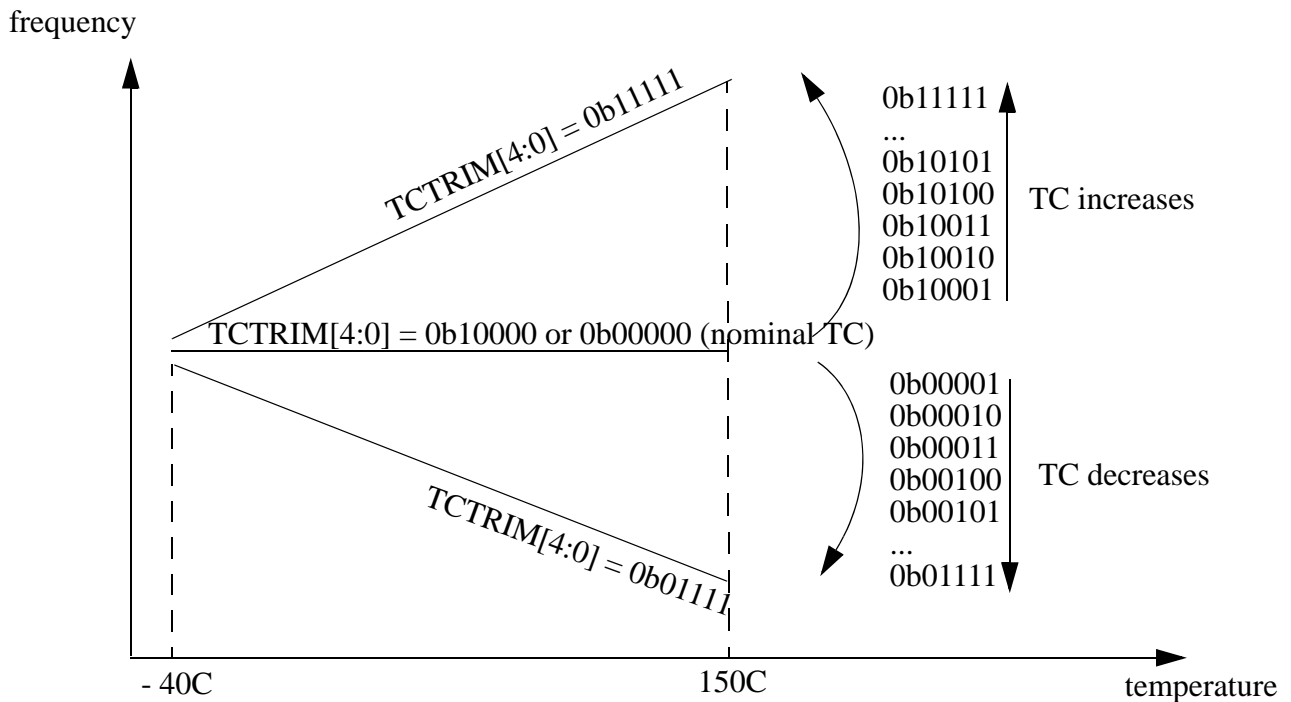

Figure 10-26. Influence of TCTRIM[4:0] on the Temperature Coefficient
15-11 TCTRIM[4:0]	<p>IRC1M temperature coefficient Trim Bits</p> <p>Trim bits for the Temperature Coefficient (TC) of the IRC1M frequency.</p> <p>Figure 10-26 shows the influence of the bits TCTRIM4:0] on the relationship between frequency and temperature.</p> <p>Figure 10-26 shows an approximate TC variation, relative to the nominal TC of the IRC1M (i.e. for TCTRIM[4:0]=0b00000 or 0b10000).</p>